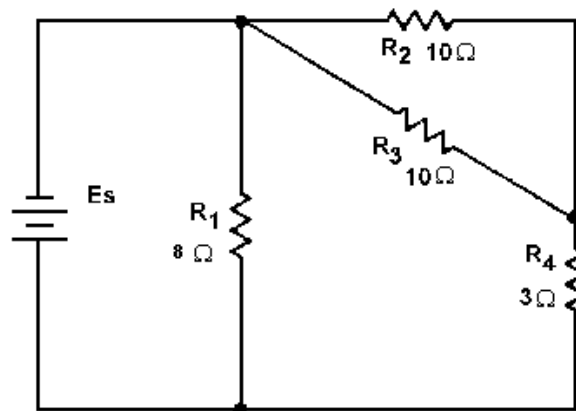

Figure 3-59.—Simplification circuit problem.
*Q43. What is the total resistance of the circuit shown in figure 3-59? (Hint: Redraw the circuit to simplify and then use equivalent resistances to compute for  $R_T$ .)*